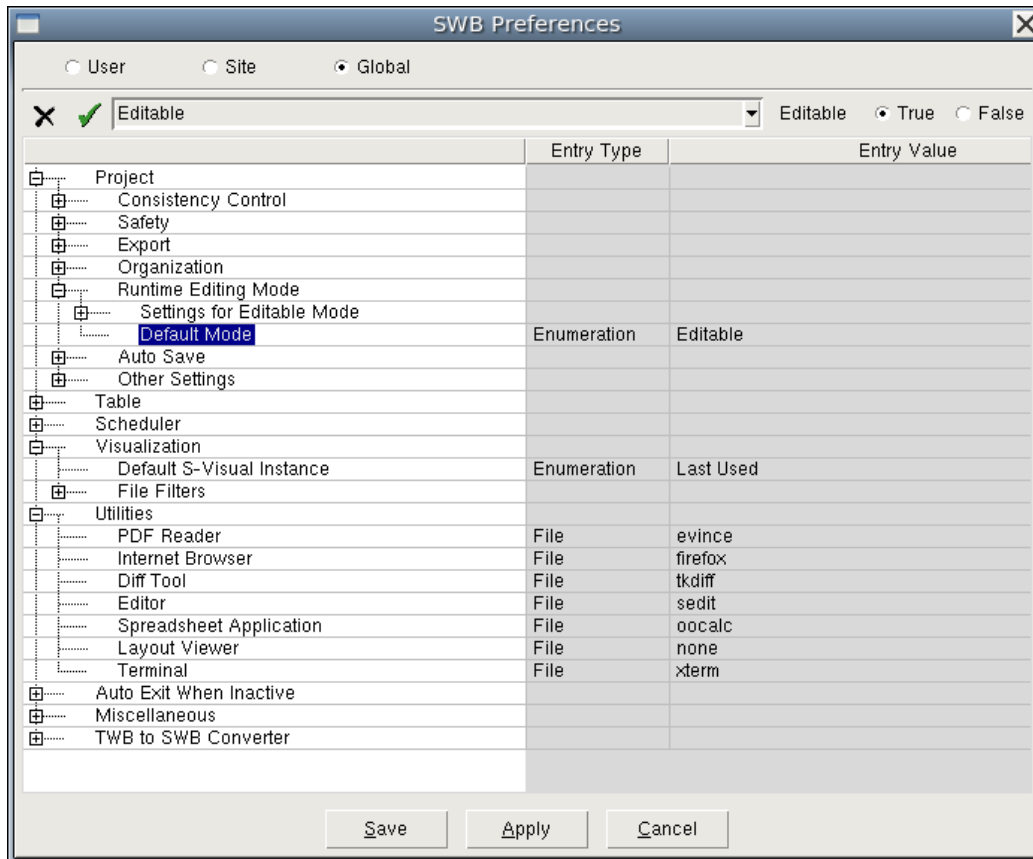

Figure 74 Global settings in SWB Preferences dialog box
2. Select either the **Site** option or the **Global** option at the top of the dialog box (see Figure 74 on page 180).
As the TCAD administrator, you might want to propagate certain Sentaurus Workbench settings to all users and to ensure that users do not change them at the user level. Use this approach to propagate global preferences at the user level (see Figure 74 on page 180, upper-right corner of dialog box).